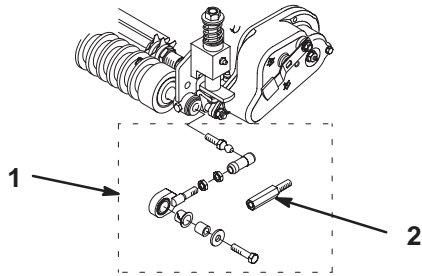

Figure 11
34. When installing the groomer kit and cutting unit on a Greensmaster 3200 traction unit, install the Pull Link Kit, Toro Part No. 94-9630, per the instructions supplied with the kit but do not use the center extension in the kit (Fig. 11). Adjust the pull link to the shortest length.